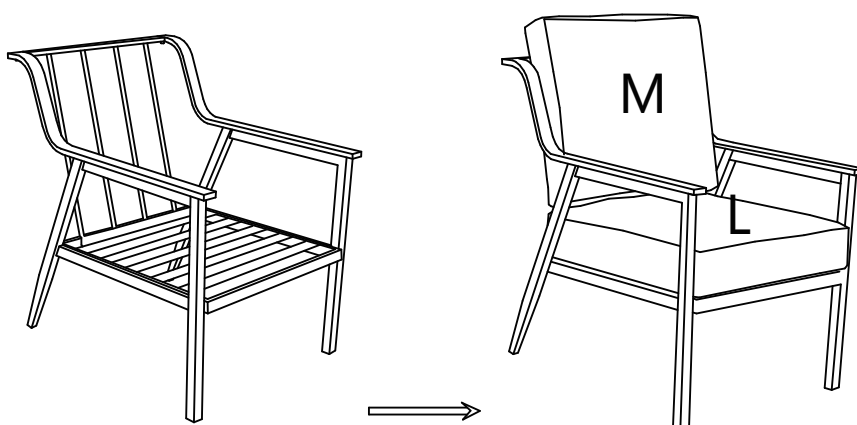

Figure 4
- 4 Turn the chair upright. Put the seat cushion (L) and the back cushion (M) on the chair. See figure 4.